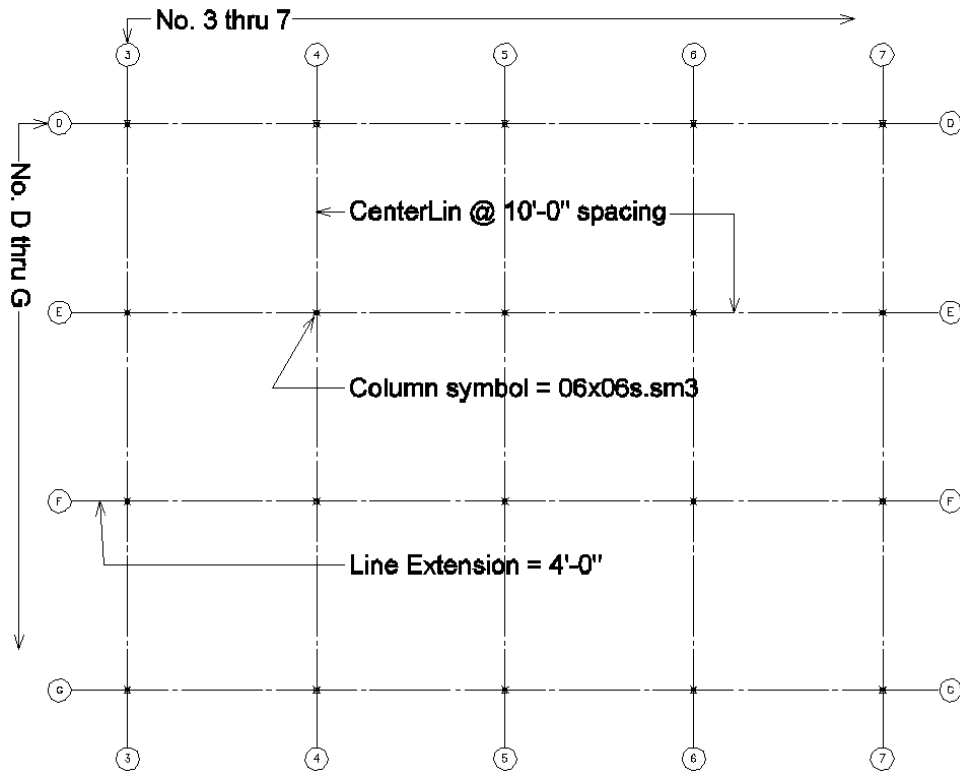

Figure 5-42: Create this grid with columns.
3. From scratch, use the macros in this section to create a structural grid, like the one in Figure 5-42 on the next page.